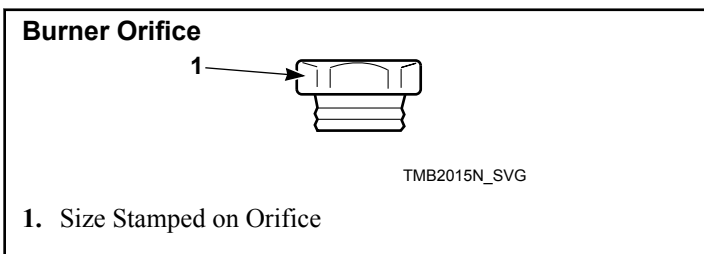

Figure 17
3. Install the new, correct burner orifice(s). Refer to *Figure 17* and *Table 1*. Torque each to 9 – 10 Nm.
4. Reinstall spud holder assembly to gas valve, making certain burner orifice(s) are in line with burner tube opening. Refer to *Figure 17*.